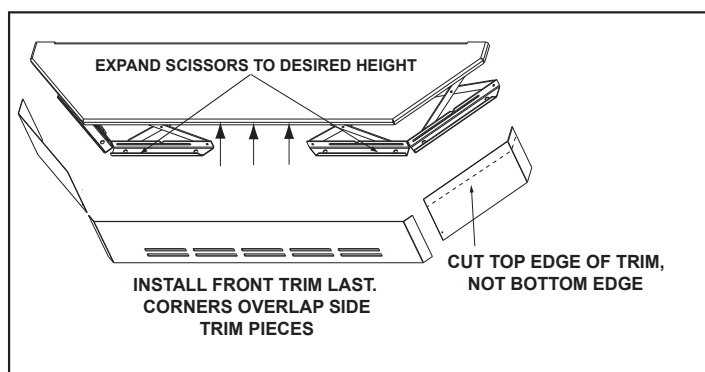

Figure 21.2
2. Expand scissors to desired height. Tighten screws to hold in place using Phillips Head screwdriver. **Figure 21.2.**
3. Measure front and side trims to required height to cover scissors and mark pieces for cutting. Cut excess material from top of trims edge, not bottom. This edge will be sharp; wear gloves to prevent injury to your hands. **Figure 21.2.**